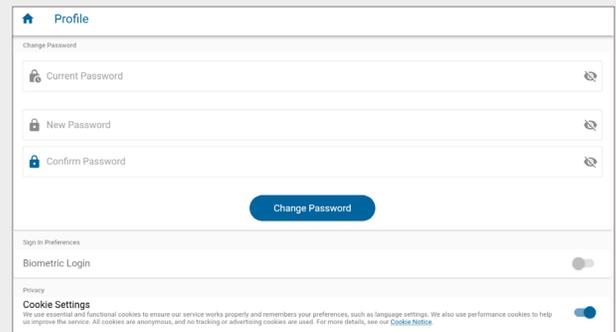

Fig. 133 – Cookie Settings option toggled on
4. Toggle on the **Cookie Settings** option, as shown in Fig. 133.